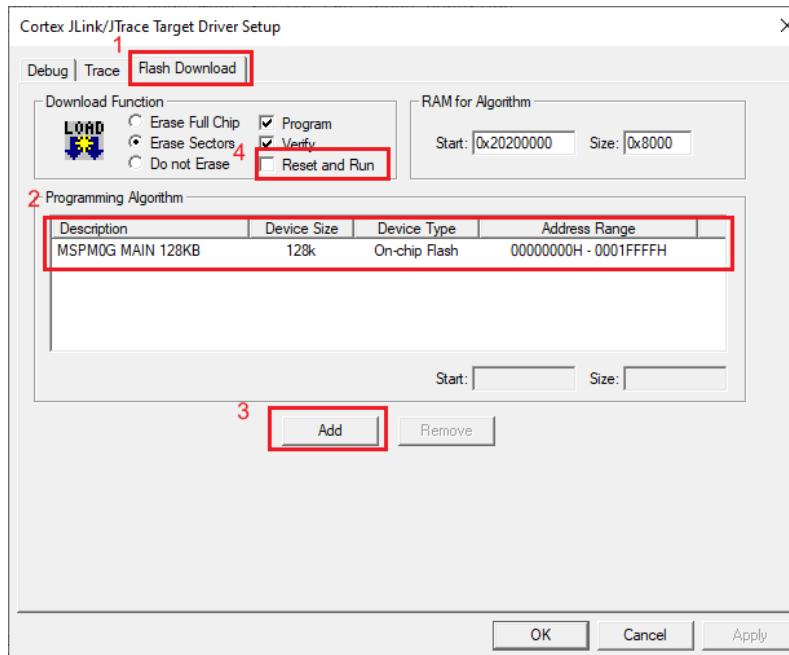

Figure 3-50. Flash Download Setting
4. Click on the *Flash Download* tab and check whether the description matches Figure 3-50. If this does not match, then click on the *Add* button and select the corresponding MSPM0 MAIN option. The device type is *On-chip Flash*. At last select *Reset and Run*.